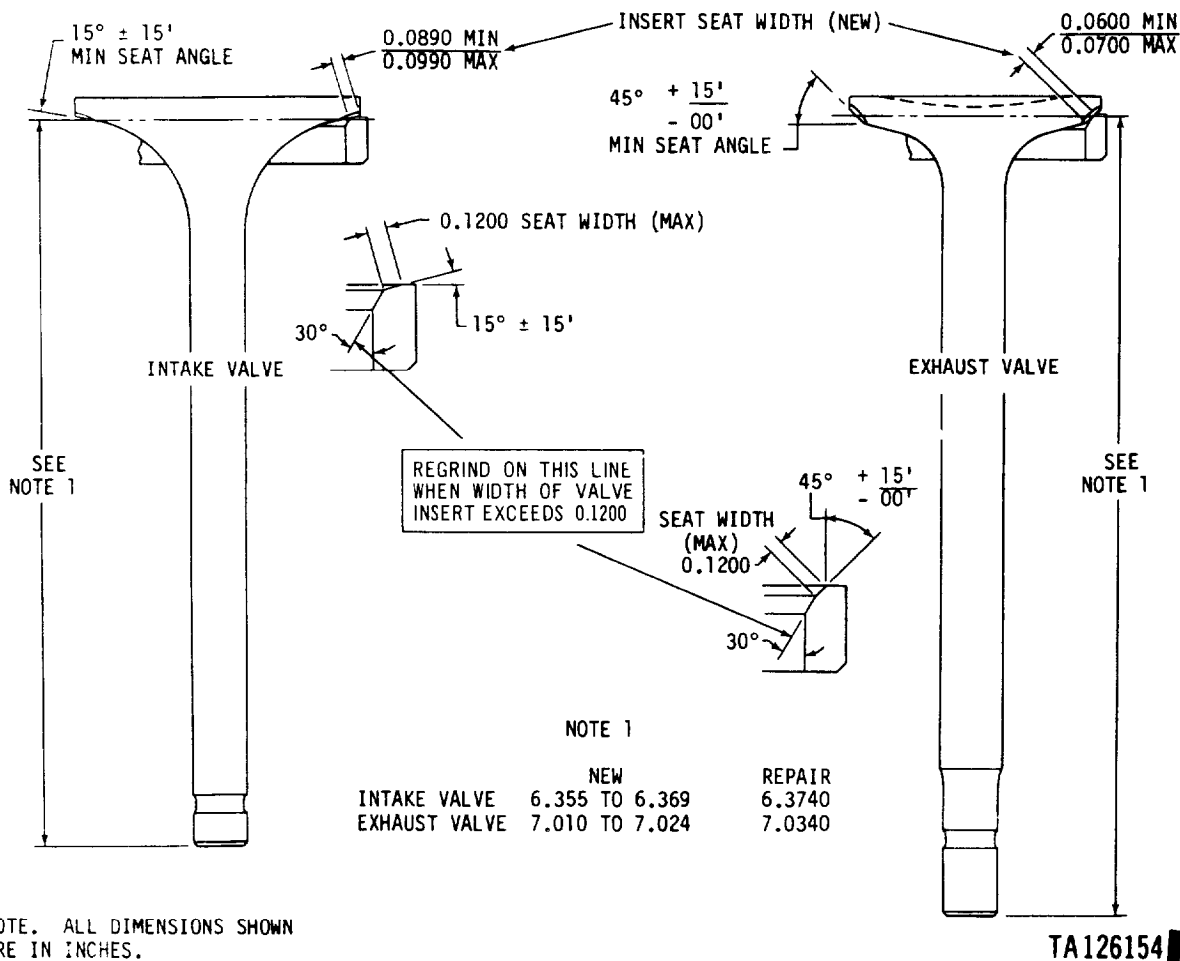

Figure 3-199. Valve and valve seat insert grinding diagram.
(2) **Valve seats.** Replace cylinder assembly (5, fig. 3-190) when inserts are cracked, loose or excessively worn in the cylinder, Grind seats which do not show 360° contact with valve face. Grind inserts (fig. 3-199) as described in (a) and (b) below.
(b) Reface slightly pitted or burned valves that do not have 360° of contact to limits specified in figure 3-199. Discard valves that cannot be refaced to these limits. Check valve length from seat contact to tip of stem after grinding, as shown in figure 3-199. Discard valve if length is not within limits specified.